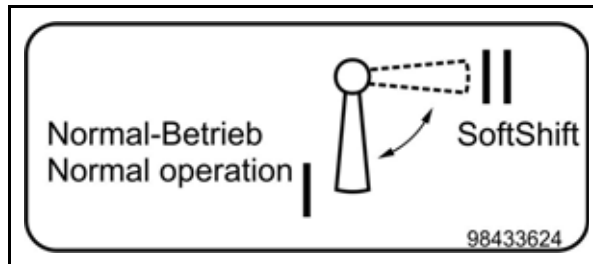

Fig. 544 Pump kit sign
- Move the ball valve (1) (**Fig. 544**) into the “SoftShift” (DAN) position in order to enable SoftShift function b).